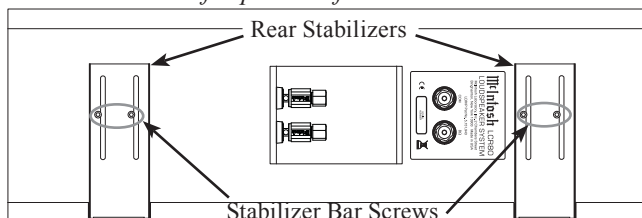

Figure 6A
1. Using an appropriate tool, remove the screws securing the Rear Stabilizers to the back of the LCR80. Refer to figure 6A.